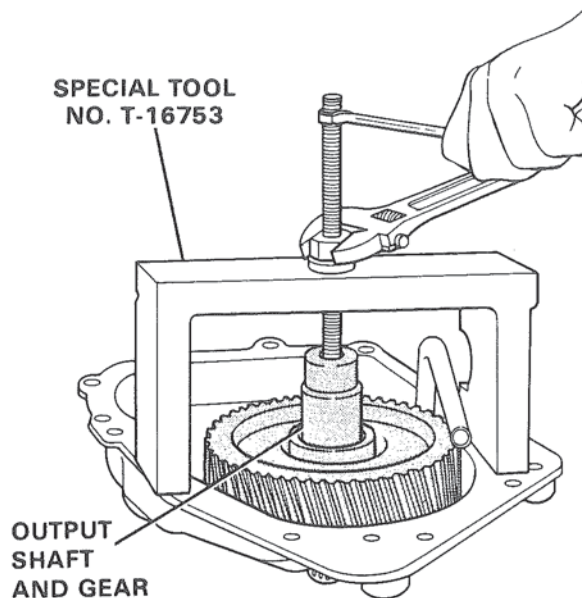

Figure 21. Removing Output Gear and Shaft from Rear Bearing Assembly. (Special Tool No. T-16753).
2. **Output Shaft.** Install Special Tool No. T-16753 onto the rear cover. With this tool, pull the shaft and gear from the rear tapered roller bearing cone assembly. Figure 21.